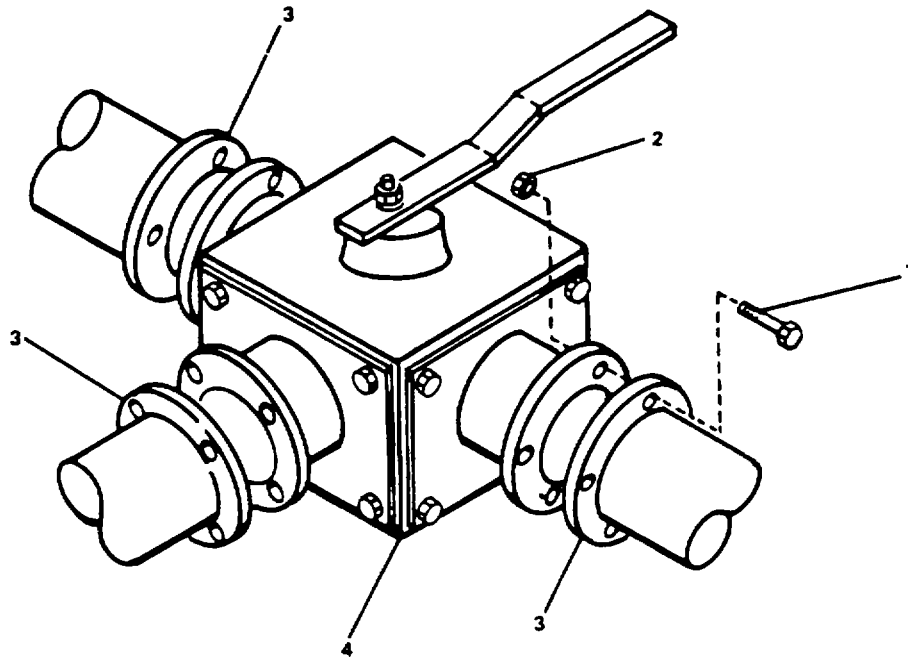

Figure 2-87. Replace Three-Way Ball Valve (Flanged).
- a. Place utility pail under ball valve (4, Figure 2-87).
- b. Remove bolts (1) and nuts (2) from flanges (3).